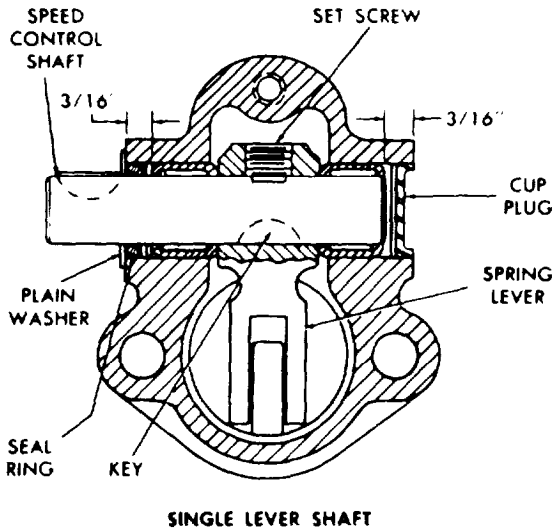

Figure 11C-71. Cross Section of Governor Variable Speed Spring Housings
1. Refer to Figure 11C-71 on page 11C-43 and Figure 11C-72 on page 11C-43. Lubricate the speed control lever shaft needle bearings with Shell Alvania No. 2 grease or equivalent. Then start one of the bearings, numbered end up, straight in the bearing bore in the right hand side of the spring housing.
2. Place the pilot rod end of the bearing installer assembly in the bearing. Support the spring housing, bearing and installer on a short sleeve on the bed of an arbor press as shown in Figure 11C-73 on page 11C-44, then press the bearing in the housing until the shoulder on the installer contacts the housing.